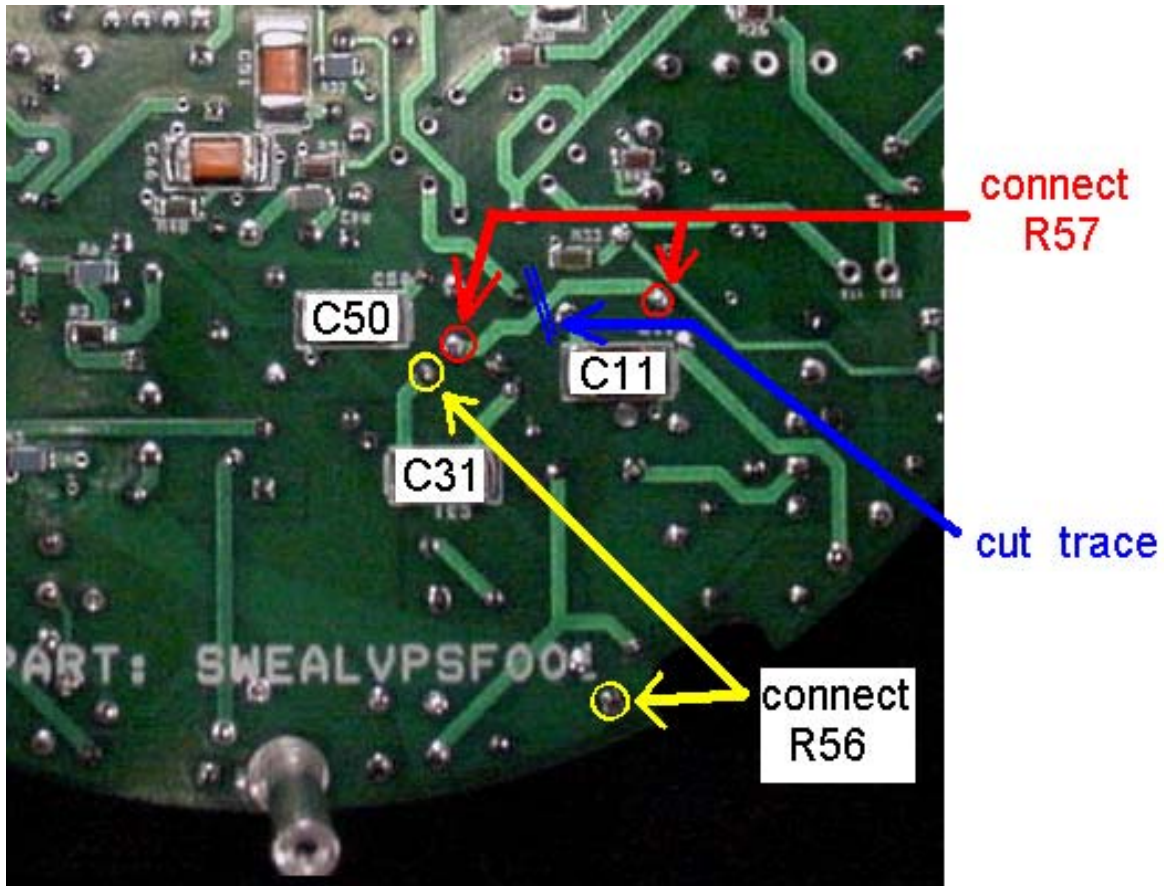

Figure 4: Reference for steps 4-6
- 4) On the bottom side of the board, cut the trace between the two red-circled vias shown in Figure 4. Cover the cut with #1838 B/A Green epoxy.
- 5) Position R57 between the red-circled vias in Figure 4, and between C11 and R33, so that it does not lie over any solder points. Solder the leads to the existing soldered connections at the red-circled vias. Use Teflon sleeving over the leads as necessary to insulate them from nearby components, vias and pads.